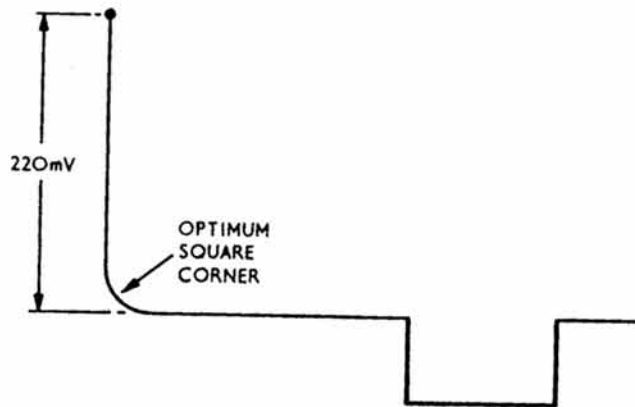

Fig. 10. 'B' Bright-Up
- (2) Using the compensated 10 : 1 probe (item 7) connected to the Y module input, monitor the output of the bright-up circuit at pin 15 and increase brilliance until the spot at the start of the trace is just visible.
- (3) Adjust 3RV1 for a 220mV pulse on pin 15, ignoring the intensified portion of the trace (see Fig. 10).
- (4) Adjust 3C2 for optimum square corner on the leading edge.